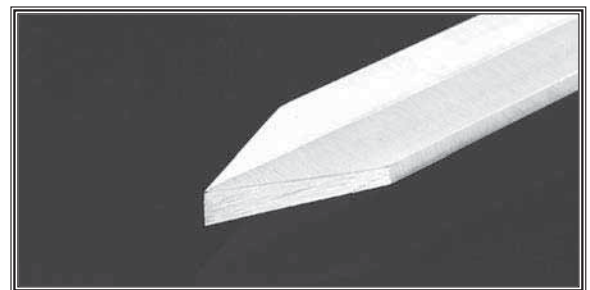

Figure 29. Parting tool.
- **Parting Tools**—Used for sizing and cutting off work. This is a flat tool with a sharp pointed nose that may be single- or double-ground. **Figure 29** shows an example of a parting tool.